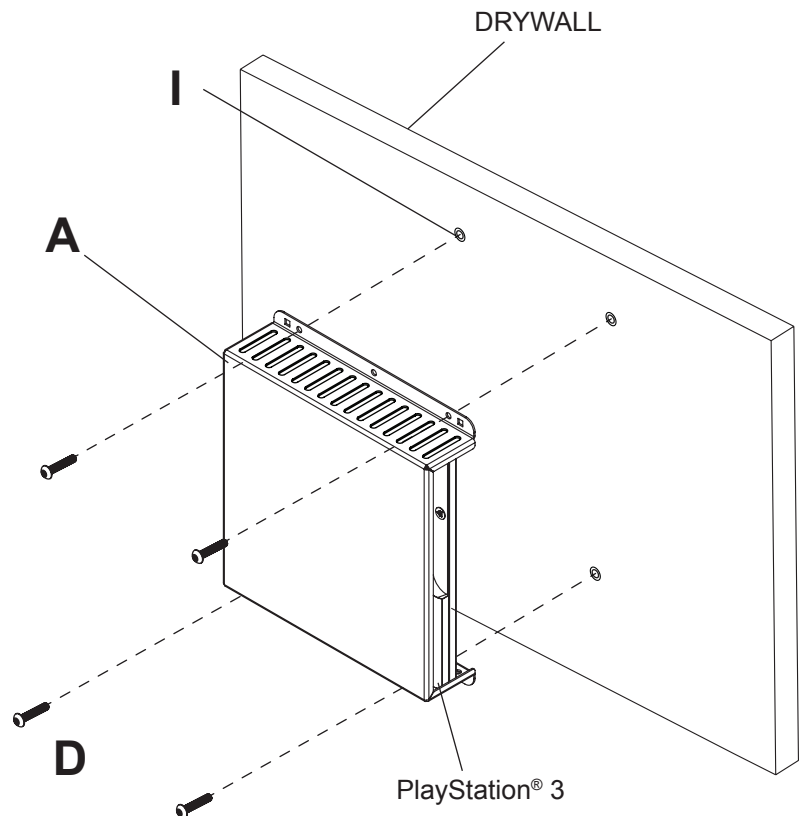

Figure. 1.4
- Place lock down plate (A) onto mounting surface as a template. Level, and mark the center of four rectangular mounting holes. Drill four 5/16" (8 mm) dia. holes through desktop mounting surface. Secure using four carriage bolts (B) through lock down plate (A) and mounting surface as shown in figure 1.1. Secure two 1/4-20 x 1 3/4" carriage bolts (B) using two 1/4-20 nylock nuts (J) in corners as shown in figure 1.1. Using remaining 1/4-20 x 1 3/4" carriage bolts (B), hand tighten slope nut (F) through 1/4-20 x 1 3/4" carriage bolt (B) until snug against bottom of desktop surface as shown in figure 1.2. Thread another slope nut (F) upside-down, about two turns from first slope nut (F). Insert a open box wrench between both slope nuts (F) and tighten. **NOTE:** Avoid jamming both slope nuts (F) together, doing so may make it difficult to remove slope nut used for tightening first slope nut (F) as shown in figure 1.3. After slope nut is secure remove bottom slope nut and add plastic cap (G) as shown in figure 1.4. Repeat with remaining 1/4-20 x 1 3/4" carriage bolt (B).